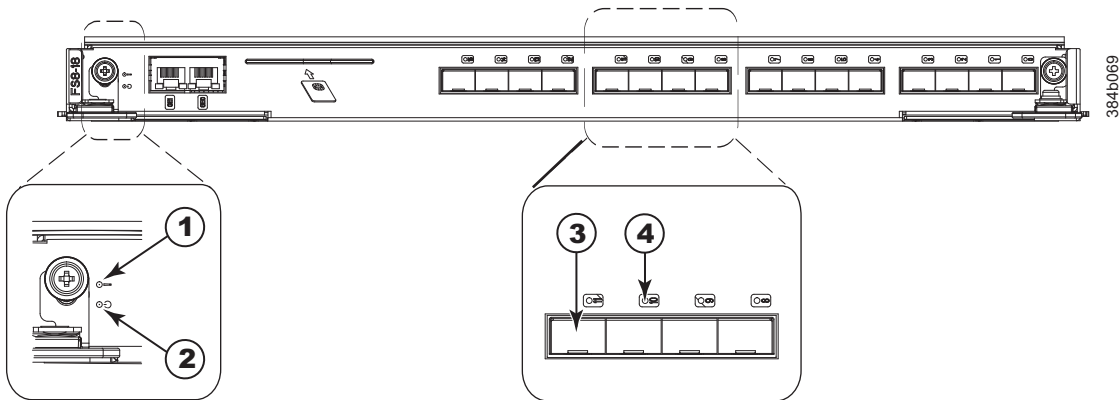

Figure 25. FS8-18 encryption blade
- Figure 25 on page 52 illustrates the FS8-18 encryption blade